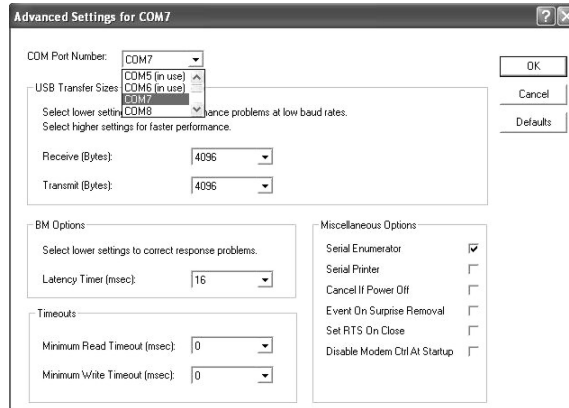

Figure 7: Windows XP COM Port Assignment
7. To check this, you will need to go to My Computer > Manage > Device Manager > Ports (COM & LPT) > USB Serial Port (COM X) > (Right Click) > Properties > Port Settings (tab) > Advanced (button) > COM Port Number > select an available port up to 9. See Figure 7.